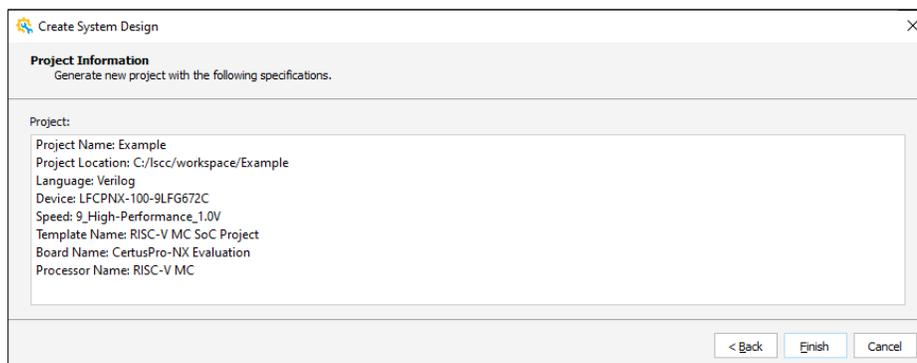

Figure 2.8. Project Information Wizard
- Click **Next**. The Project Information wizard opens. Check and confirm the project information (Figure 2.8).